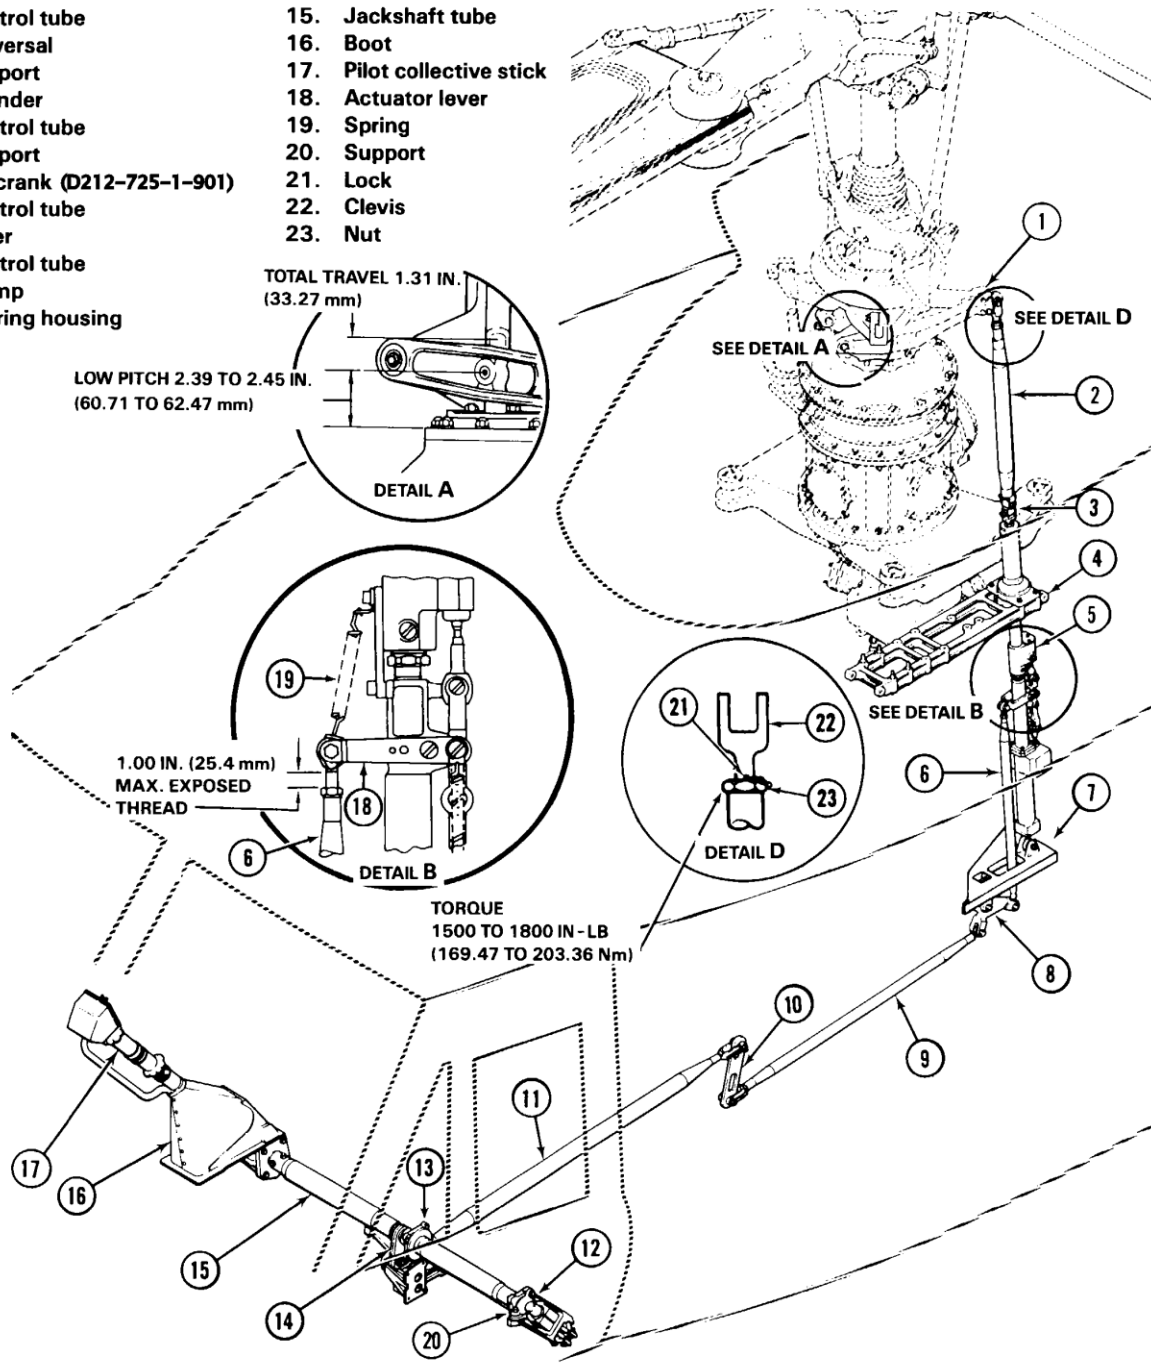
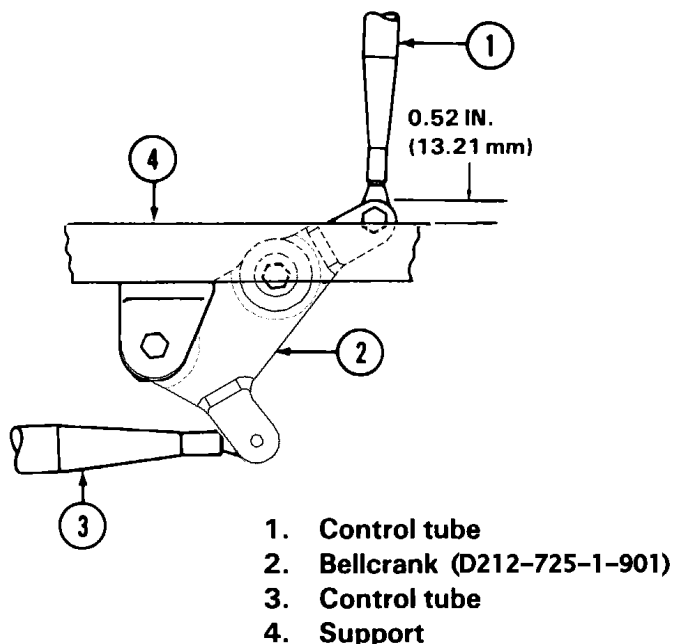

Figure 67-1. Collective Controls
Figure 67-2. Collective Bellcrank
67.1.5.1.1 Control tube (2, Figure 67-1) from collective levers (1).
67.1.5.3 For helicopters S/N 30850 and sub. or prior S/N helicopters with adjustable control tube 212-001-270-001 installed, disconnect control tube (3, Figure 67-2) at forward end and position bellcrank (2) to dimension shown. Adjust control tube (3) to fit and install on lever (10, Figure 67-1).
67.1.6.2 Hold pilot cyclic stick in extreme aft left corner position so upper arm of bellcrank (8) is in upper-most position. Bottom out piston at top of right side hydraulic cylinder (7) and position valve arm (30) as shown in Detail A, Figure 67-1. Adjust control tube (9) to correct length to attach to valve arm (30). Shorten control tube by three turns and connect to input lever with bolt, washer, nut, and cotter pin.
67.1.6.7 Adjust each extension tube (3 and 10) to correct length and attach to swashplate with bolt, washer, nut and cotter pin. Torque jamnuts on control tubes 1500 to 1800 in-lbs. (169.47 to 203.36 Nm) and secure with lockwire (C-405) (Figure 67-1, detail D).
67.1.7.13 Adjust each extension tube to correct length and attach to swashplate with bolt, washer, nut, and cotter pin. Torque jamnuts on control tubes 1500 to 1800 in-lbs. (169.47 to 203.36 Nm) and secure with lockwire (C-405) (Figure 67-1, detail D). Apply adhesive (C-308) around nut, lock, and threads on clevis.